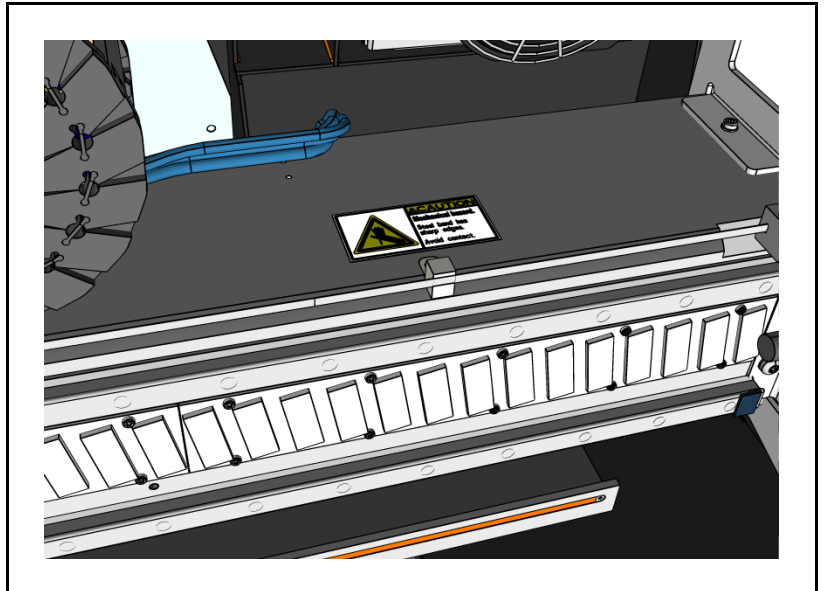

Figure 1-10. Signs on the X beam.
- Two signs on top of the X beam. One sign in each end of the X beam (see Figure 1-10).